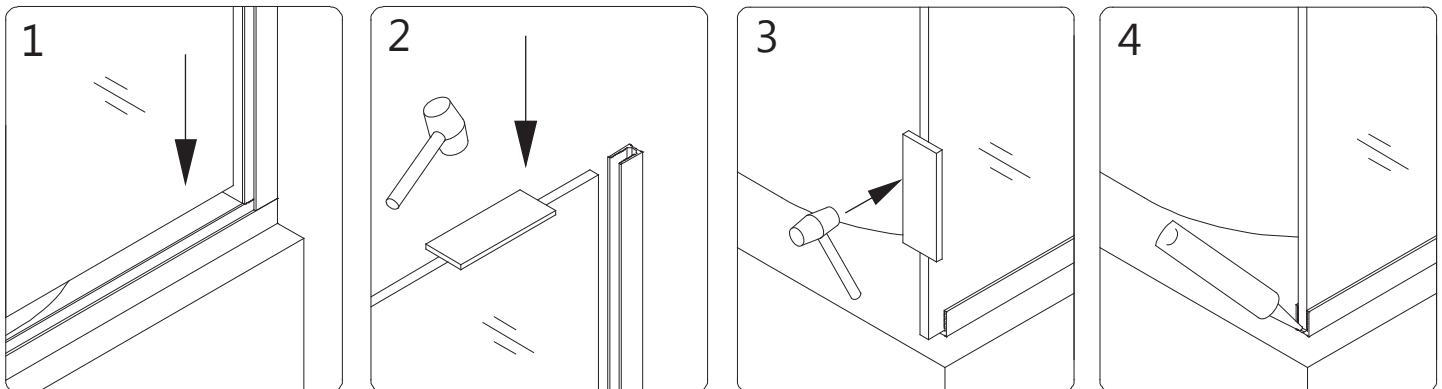

**Fig 12**
**10.** Apply waterproof silicone into both U-Channels. **(Fig 12)**